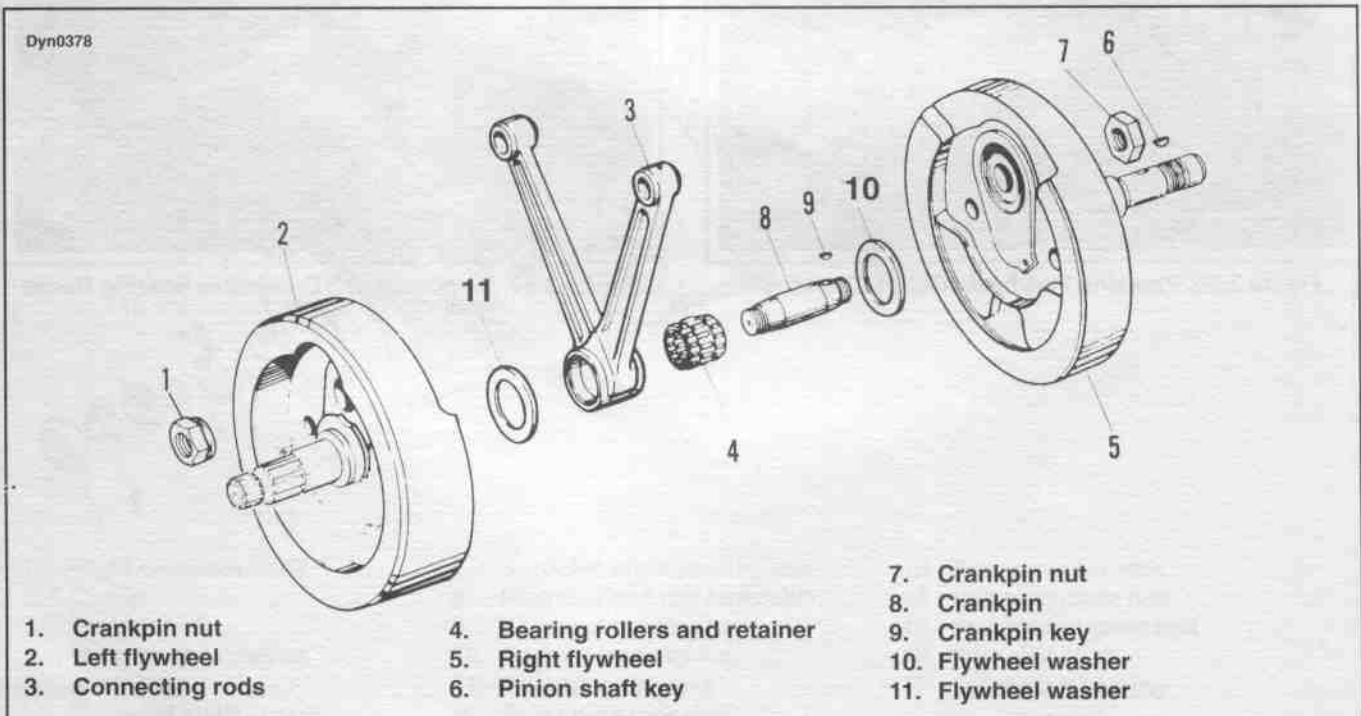

Figure 3-69. Flywheel Assembly
- See Figure 3-69. Remove crankpin nut (1).
- See Figure 3-69. Hold down bearing assembly with a short length of pipe so connecting rods (3) may be slipped off bearings. Remove bearings (4). Hold together in set until bearings are washed and refitted to crankpin
- Turn flywheel over in fixture and remove crankpin nut (7). Press crankpin out of flywheel. Remove crankpin key (9).
- See Figure 3-69. Wash all parts in grease solvent and blow dry with compressed air. Examine crankpin for wear, grooving and pitting. If the surface is at all worn, replace with new pin. Examine flywheel washers (10,11). If either washer is worn and grooved, it should be replaced.
- See Figure 3-69. Assemble the crankpin to the right flywheel. Place two drops of Perma-Loc HM 161 Retaining Compound on the threads and face of the nut. Tighten the crankpin nut to 180-210 ft-lbs (244-285 Nm).